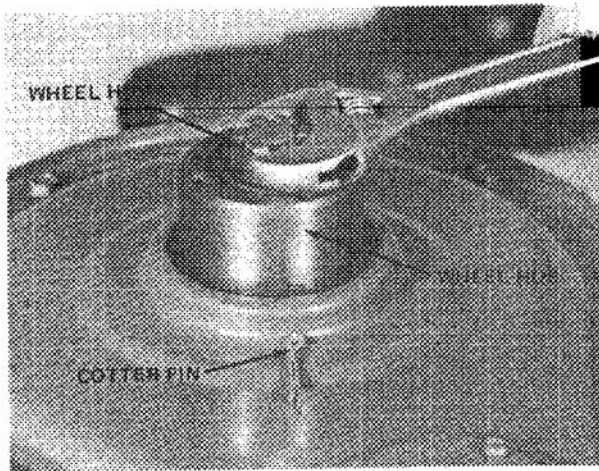

Figure 1
1. Rotate wheel hub (Fig. 1) to check bearing adjustment. A slight drag must be felt when hub is rotated. If drag is not evident, remove cotter pin and tighten wheel hub nut (Fig. 1) until slight drag is felt when hub is rotated. Reinstall cotter pin through nut. If cotter pin cannot be installed, loosen nut slightly until holes line up.
2. Check O-ring to assure it is not damaged, and make sure it is seated in inside diameter of wheel hub (Fig. 1).